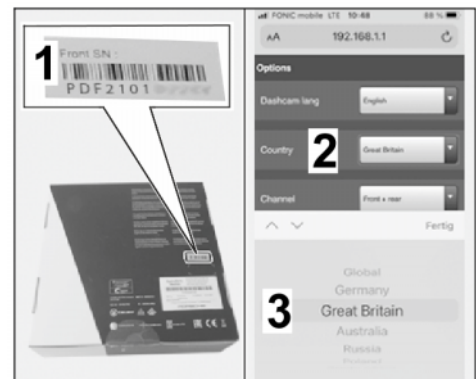

Figure 29
- 5.3.2 Select country (⇒ Figure 29).